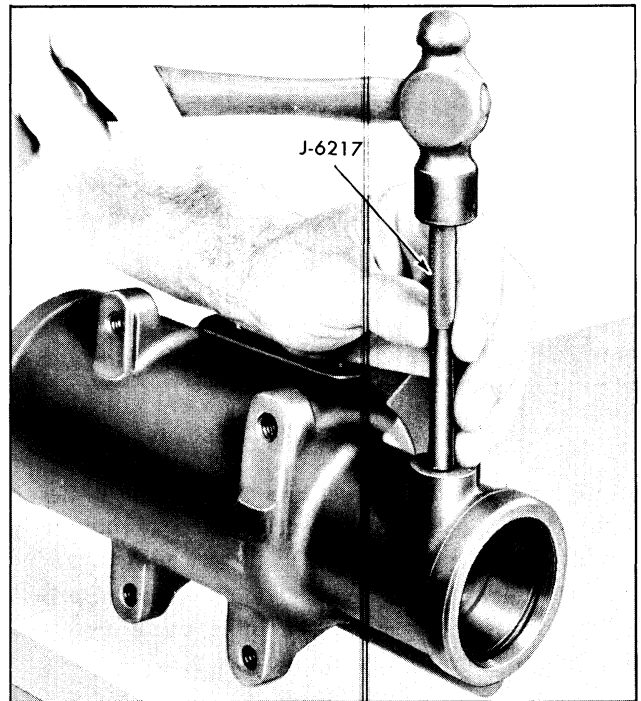

Fig. 9A-25 Installing Connector Using J-6217
4. Attach an inch-pound torque wrench with $\frac{3}{4}$ inch 12-point socket to stub shaft (Fig. 9A-28).